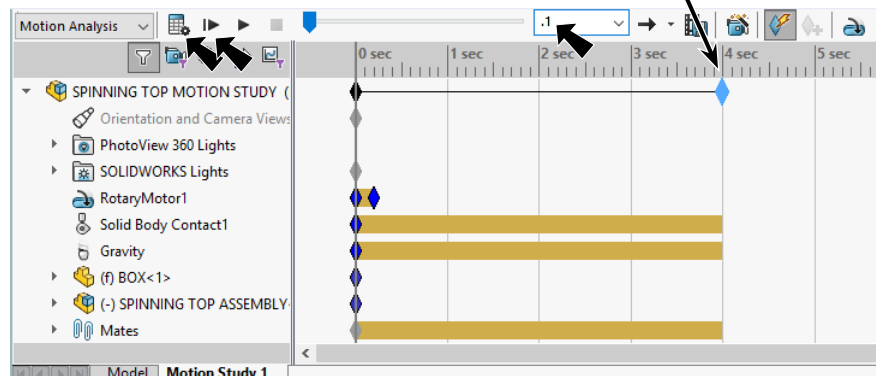

Fig. 18
Step 1. Click **Calculate** on the Motion Manager toolbar, **Fig. 18**.